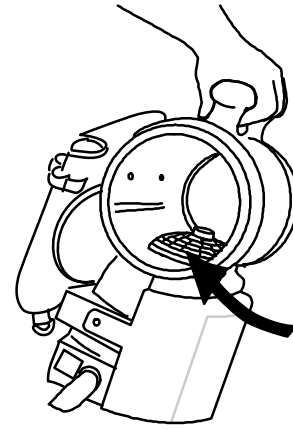

FIG. 6
1. Remove the cap and pull out the cloth filter. Check to see that the dome filter has not shifted during shipping (Figure 6).